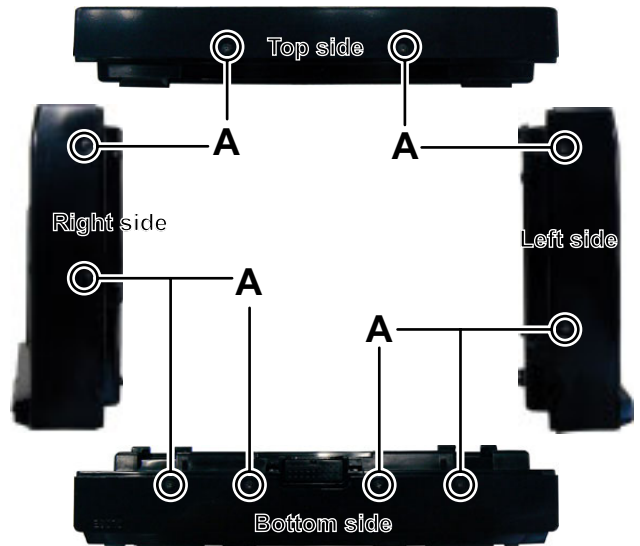

Fig.1
#### 3.2.1 Removing the Rear cover (See Fig.1 to 3)
- (1) Remove the ten screws **A** and five screws **B** attaching the Rear cover. (See Fig.1, 2)